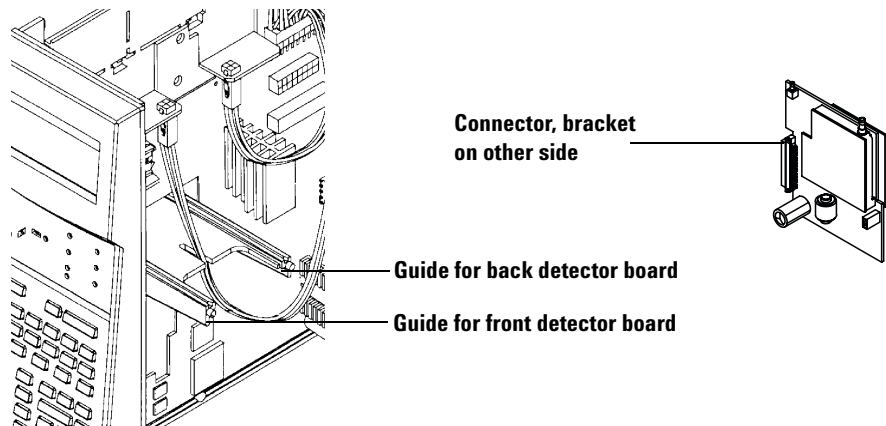

Figure 12 Installing the detector board(s)
- 1 Install the detector signal board(s) on the right side of the instrument behind the keyboard (see Figure 12).
With a dual-wavelength FPD, it does not matter which of the two circuit boards is used for which PMT (see Figure 12). However, the high voltage and signal cables from each PMT must go to the same board. Do not “cross-wire.”